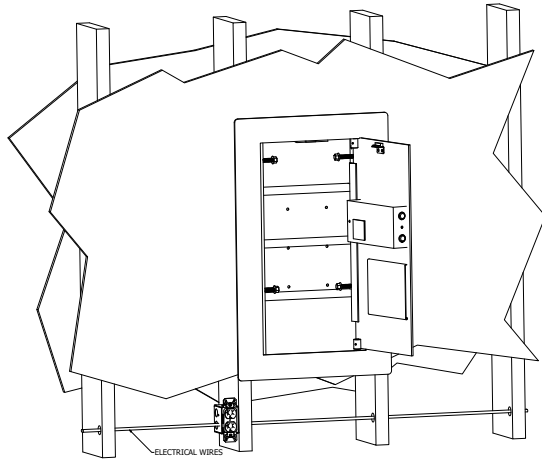
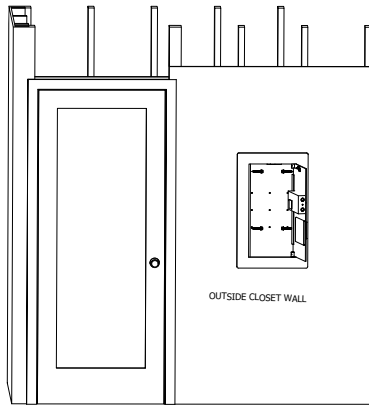

FIGURE 1
FIGURE 3
- e. Determine mounting style - flush 2x8 (**Figs. 1&2**), flush 2x4 projecting out the back wall (**Figs 3,4 & 5**), partial surface mounted in 2x4 wall (**Fig. 6**)